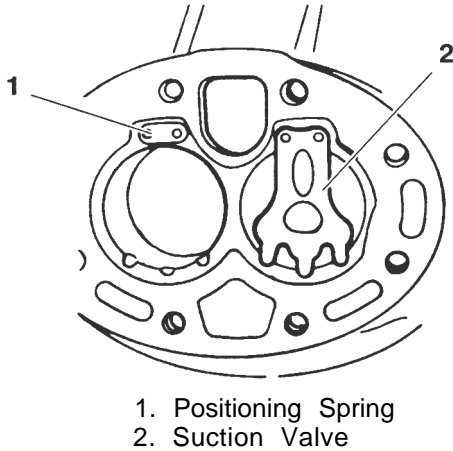

Figure 3-2. Installing Suction Valves
2. Install suction valve positioning spring on dowel pins. Assemble positioning spring springs with spring ends bearing against cylinder deck. The spring will bow outward in the middle. (See Figure 3-2)